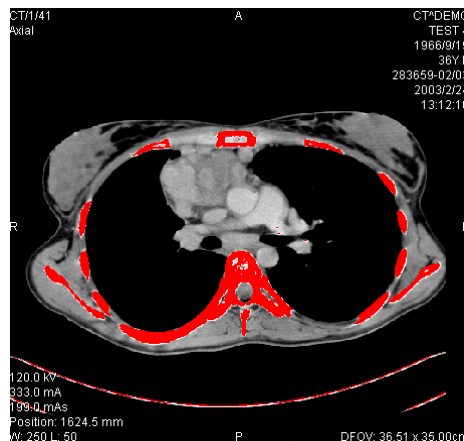

Figure 279 – Segmented image with threshold selection, contouring bones
- Select the **Lower** and **Upper** grayscale values for the search process. All grayscale values within the selected threshold value range will be considered as matching. This can be seen in the current view – the matching regions are displayed in red while the remainder appears in black (see Figure 279).